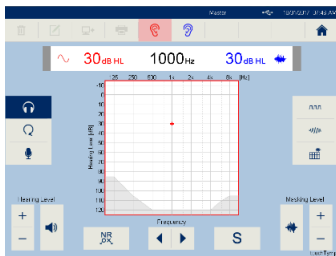

Figure 152
- **One audiogram:** The test screen display one audiogram where standard audiometric symbols are plotted within the same graph based on earside, transducer and level at the time of selecting **Store S** / **NR** (Figure 152).